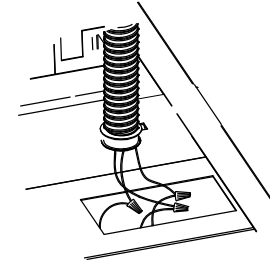

FIG.3
4. Close the driver box [Fig.3].